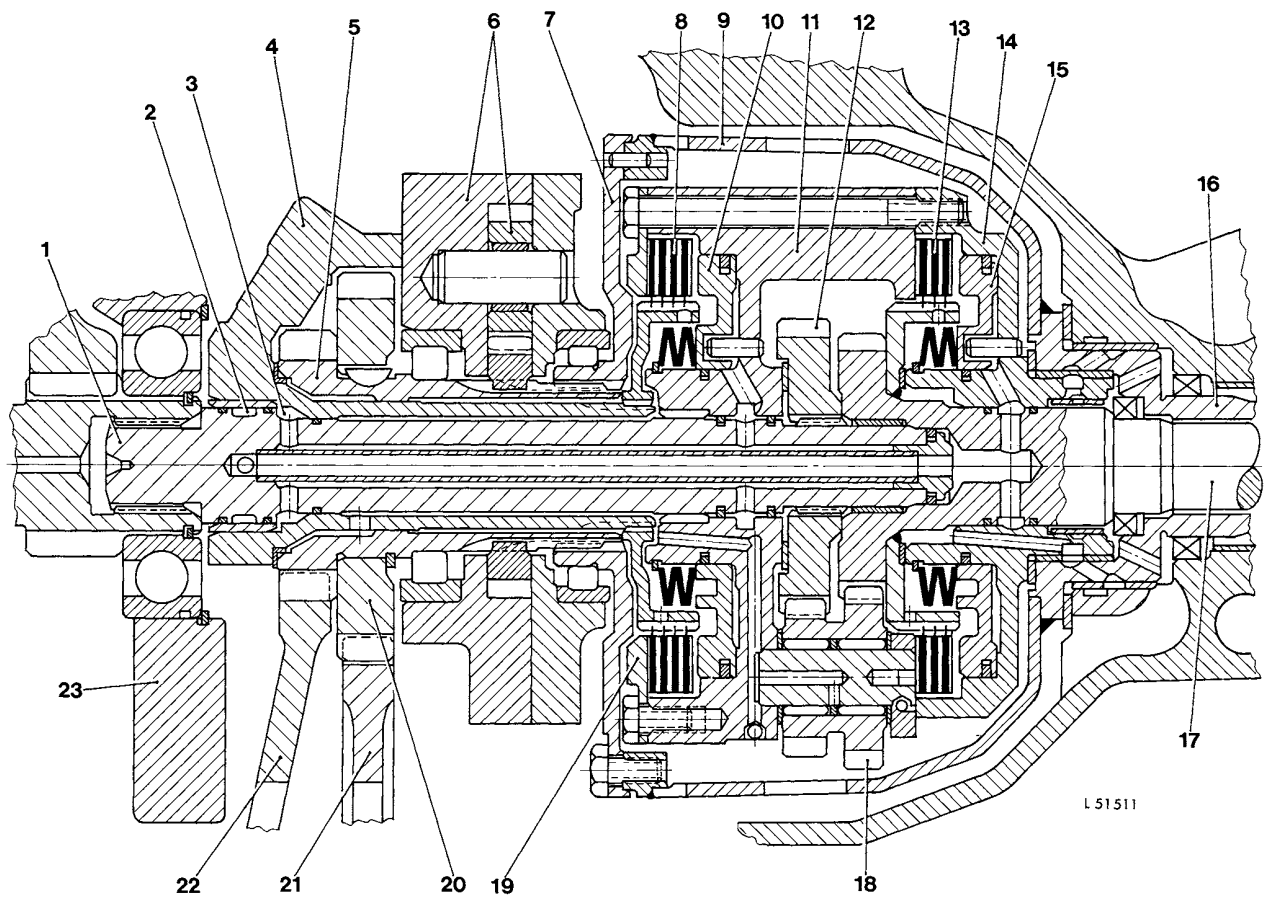

Fig. 1 — HIGH-LOW Shift Assembly, Sectional View
The HIGH-LOW shift unit (see fig. 1) is a hydraulic gear reduction unit which can be shifted under load. This unit allows the operator to shift to a lower range in any transmission gear while "on the go" and without declutching.
Shifting from HIGH to LOW decreases the travel speed by 26% and boosts torque to the tractor rear axle by 35% (LOW brake see item 8, fig. 1). Shifting back to HIGH deactivates the reduction part of the HIGH-LOW unit and the tractor resumes the speed selected by the transmission.
The HIGH-LOW shift unit is located in front of the transmission and contained in the clutch housing. It consists essentially of a control valve assembly located in the transmission shift cover, a HIGH hydraulic clutch for normal travel speed, a LOW hydraulic brake for reduced travel speed (both of the multiple-disk type) and a planetary assembly (see fig. 1).
Pressure oil to operate the HIGH-LOW shift unit is supplied by the transmission oil pump located directly behind the HIGH-LOW shift unit (see item 6, fig. 1).
At the input end, drive shaft 17 (fig. 1) is driven at engine speed by the engine clutch disk (the shaft is splined to the disk). The HIGH clutch hub is welded to the drive shaft. The bronze disks (3 used) are splined to the hub and the separator plates (4 used) are tanged to the HIGH clutch drum 14.
The hub of LOW brake 8 (fig. 1) is splined to the shaft of clutch oil manifold 4. The LOW brake disks (4 used) are splined to the hub and the separator plates (4 used) are tanged to the planet pinion carrier.
Engine power is transmitted through the rear driven disk of PTO clutch* or torsion damper** of engine clutch, splined to the hollow drive shaft (see 16, fig. 1) and thus to HIGH-LOW housing 9 welded to the hollow drive shaft. From here power is transferred through HIGH-LOW housing cover 7, attached to HIGH-LOW housing to the hollow gear shaft which is splined to the HIGH-LOW housing cover. The hollow gear shaft is provided with the PTO drive gear (540 rpm) for continuous-running or independent PTO. The shaft and gear are machined as an integral assembly. On tractors equipped with dual speed continuous-running PTO the gear is keyed to the hollow shaft (see 20, fig. 1) and drives the 1000 rpm PTO. The shaft also drives the large transmission oil pump gear (see fig. 1).